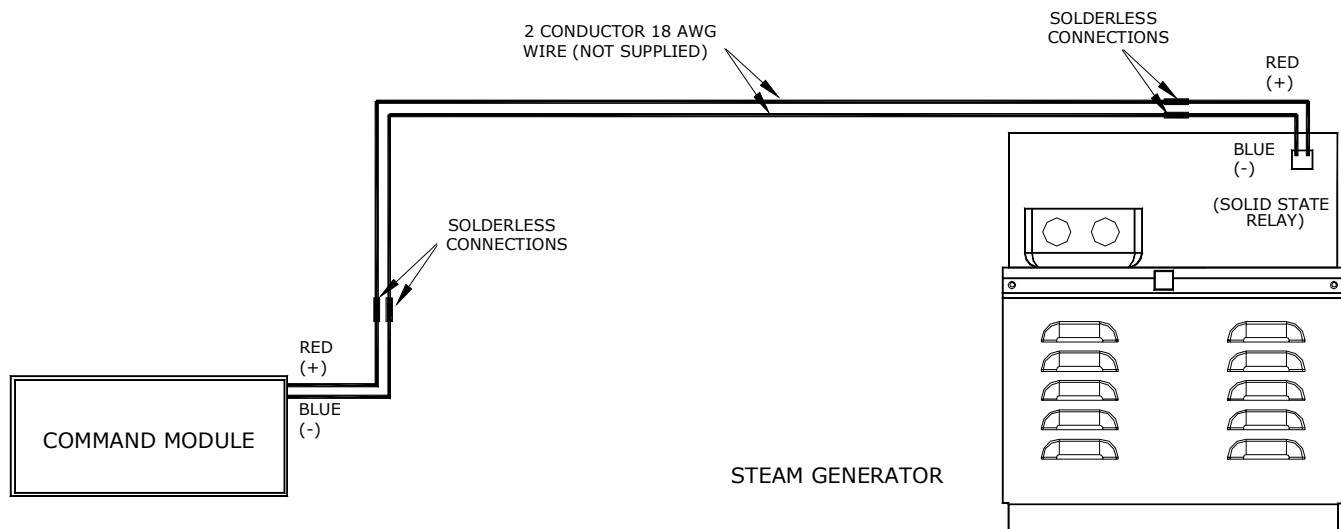

Figure 17
2. Connect 2-conductor 18 AWG wire from the Pro-Heat PCB Module in the Command Module to the lines coming out of the black box on top of the Steam Generator. The wires are labeled "PRO-HEAT" on both ends (see **Figure 17**).